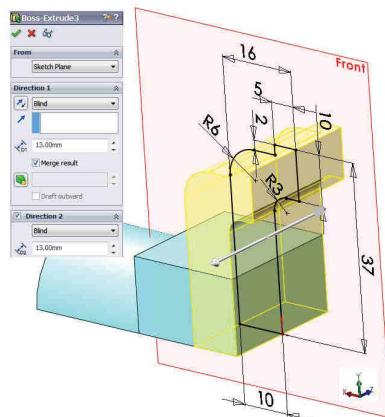

Fig. 2.24
**5 Trasare schiță 16x37:** Comanda Sketch – Fig. 2.24 – plan Front.
- Fig. 2.24 - Blind /  13 mm distanță / Activare Direcție 2 / Blind /  13 mm distanță / .
**5 Sketching of the 16x37 contour:** The Sketch command – Fig. 2.24 – Front plane.
command - Fig. 2.24 – Blind  13 mm distance / Activate Direction 2 / Blind /  13 mm distance / .